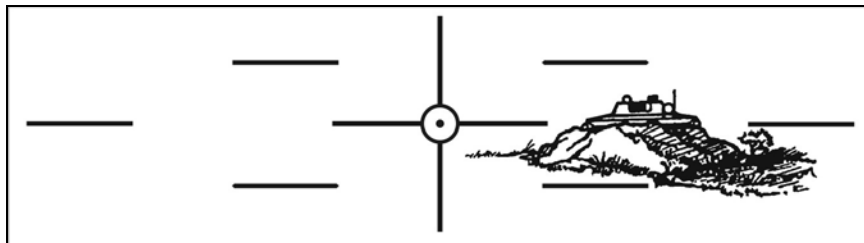

Figure 6-30. Gap lead applied to a stationary BMP when a Bradley fires over its left flank.
(4) When a moving Bradley fires over its flank (side) at a stationary target, the standard lead rule applies. The gunner leads the target in the opposite direction of the BFV's travel (Figure 6-30).